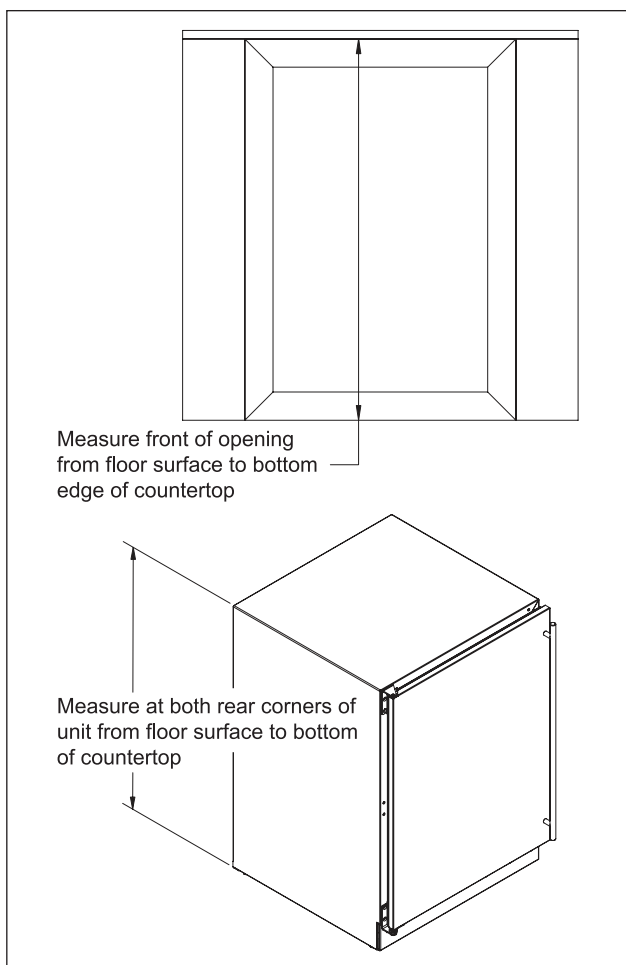

Figure 4. Leveling the Unit
2) With all surfaces in the installation opening square and level, refer to Figure 4 on page 7 and perform the following steps to level the unit: